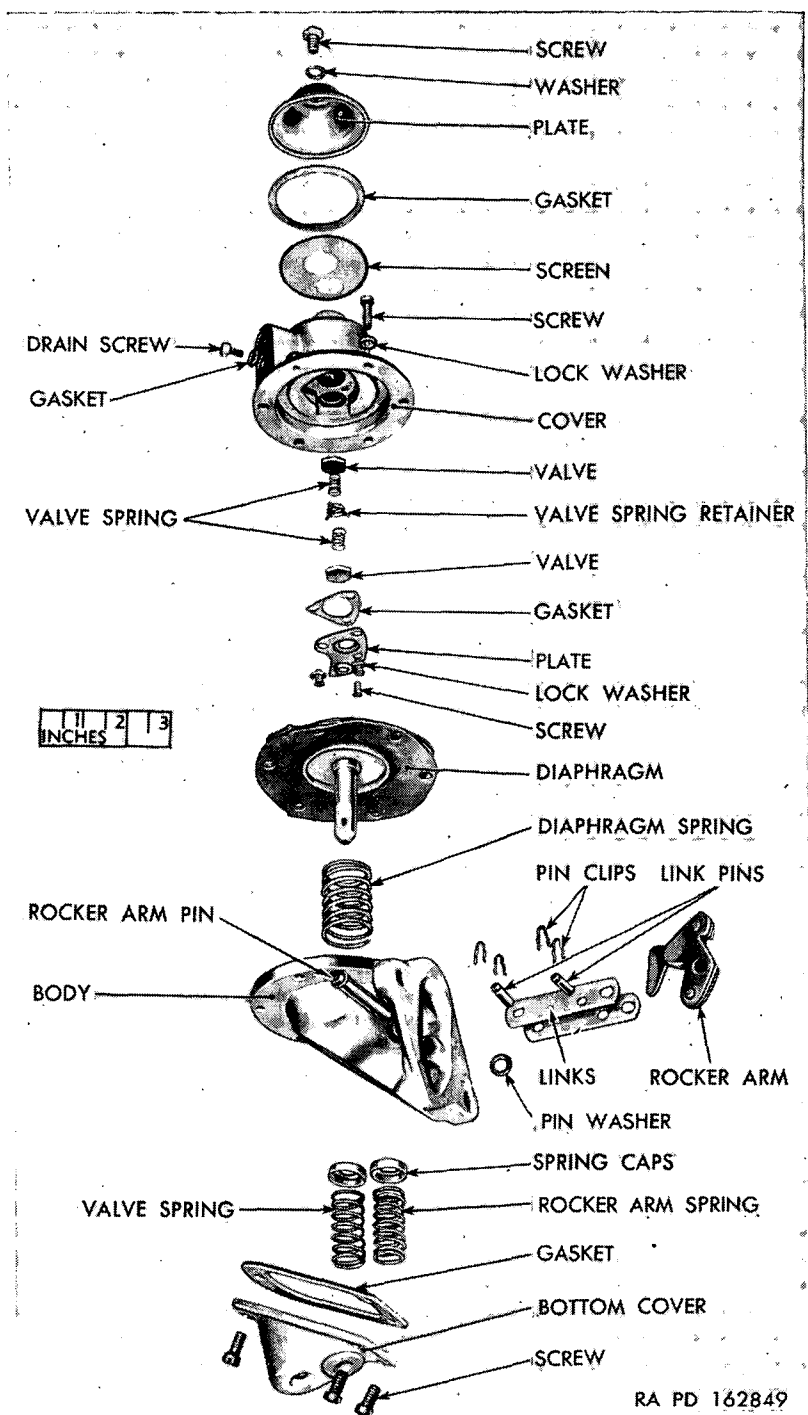

Figure 23. Fuel pump—disassembled (typical series AC construction).
- (1) Mark edges of top cover and body (fig. 23) of series AC fuel pump (fig. 22) with a file. Mark at heat shield stud, if used.
*a. Assemble Body (fig. 23).*
- (1) Assemble upper spring (if used) over diaphragm pull rod and push pull rod through hole in pump body. Assemble sheared ends of two links to flat of pull rod (sheared link corner toward top of pull rod) and retain with one link pin and two clips. Install link pin through center hole of links and retain with two clips.
- (2) Install rocker arm between links with hooked end over center link pin. Assembly is correct when center link pin is below center line of links. Align rocker arm pin hole with hole in body and drive in rocker arm pin. Install washer